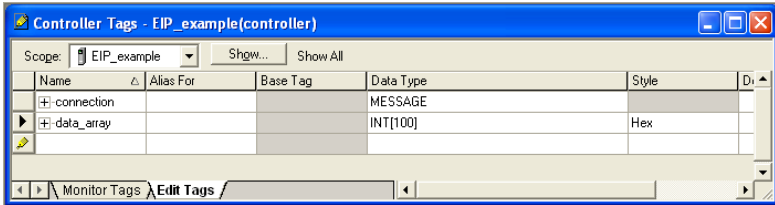

Figure 92: Create New Tags
- The “Controller Tags” window appears. Refer to Figure 92.